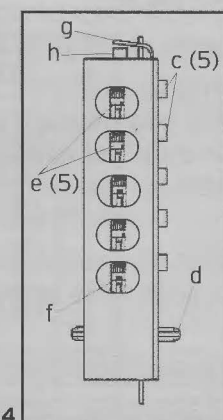

Fig. 4
9. Using pliers or equivalent, rotate the control shaft (d) counterclockwise to clear the chamber and release. The lockout slide (g) should pop out (button underneath will stay depressed) (See Figure 4).
10. Depress the key-stem/s (c) that you want in the combination, releasing each after it is depressed (See Figure 4).
11. Once all the digits in the new combination have been depressed, with the pliers or equivalent, rotate the control shaft (d) clockwise (See Figure 4). The code change button (h) underneath the lockout slide (g), should pop up (See Figure 4). The new combination is now set.
12. Look at the code gear pockets (f). The numbers in the new combination should not be at the shear line (open position) (See Figure 4).